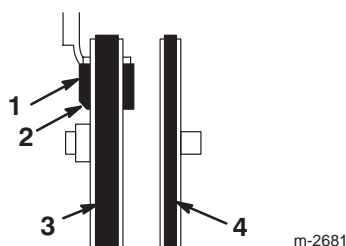

Figure 27
17. Ensure that the brake pad is properly installed on the brake arm. Position the angled cutoff on the brake pad as shown in Figure 27.
13. Ensure that the brake pad is properly installed on the brake arm. Position the angled cutoff on the brake pad as shown in Figure 27.